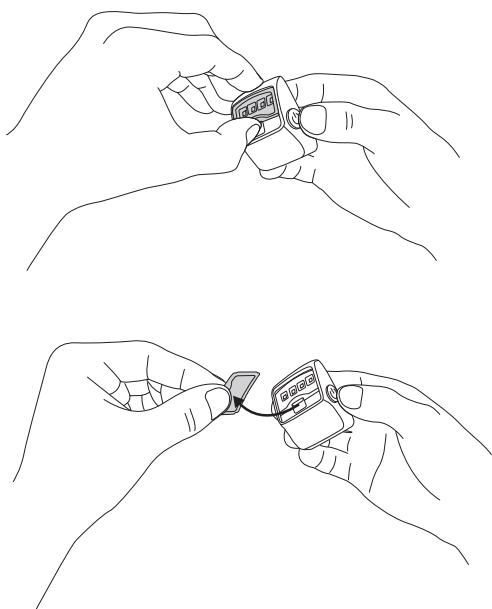

Fig. 31m
- iii. If the cover lens becomes dirty or damaged, pry it up and off the front of the task light with a fingernail. To replace it with a new lens, push the lens into the side of the task light and snap the alternate side in place (Fig. 31m and 31n).